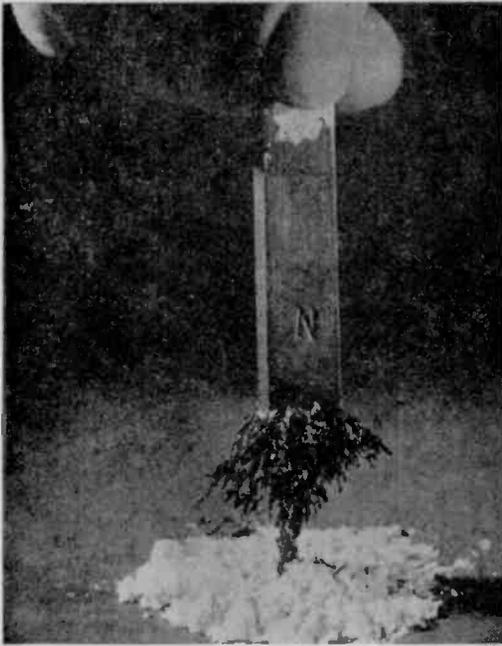

Fig. 7: Mixture of iron filings and powdered sulfur is easily separated with magnet attracting the iron.
**Iron Loses Its Magnetic Properties** if chemically combined with sulfur to form iron sulfide, but when the two materials are merely mixed together there is no change. In fact, a magnet is your best bet for separating a mixed pile of iron filings and powdered sulfur. Rub the magnet around in the mixture and the filings will cling to it (Fig. 7), leaving the sulfur behind.
You can bring a dozing audience (someone else's, naturally, not yours) to quick attention by changing wood alcohol to that evil-smelling gas, formaldehyde (Fig. 7). Customarily used in water solution to preserve biological specimens and to harden photographic film, the gas is made commercially by oxidizing methyl, or wood alcohol by means of heat and a surface catalyst. You can do this, however, by immersing a test tube containing a teaspoonful of the alcohol in hot water. When alcohol warms, heat a 1/4-in. coil of bare copper wire in a gas flame and plunge it into the alcohol vapor. The copper causes the vapor to unite with oxygen from the air and from the film of oxide on itself, and the smell of wood alcohol changes into the pungent odor of formaldehyde.